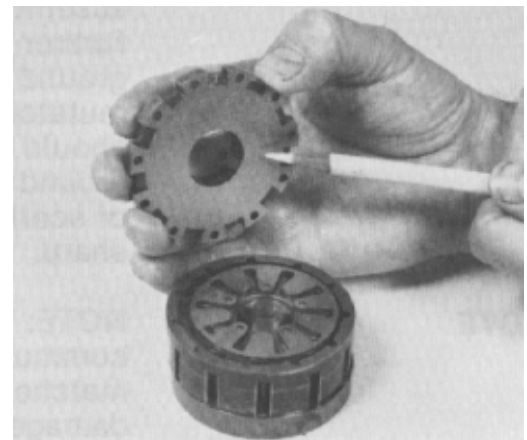

Figure 64
28. Lift the commutator cover from the metering package (Fig. 64).